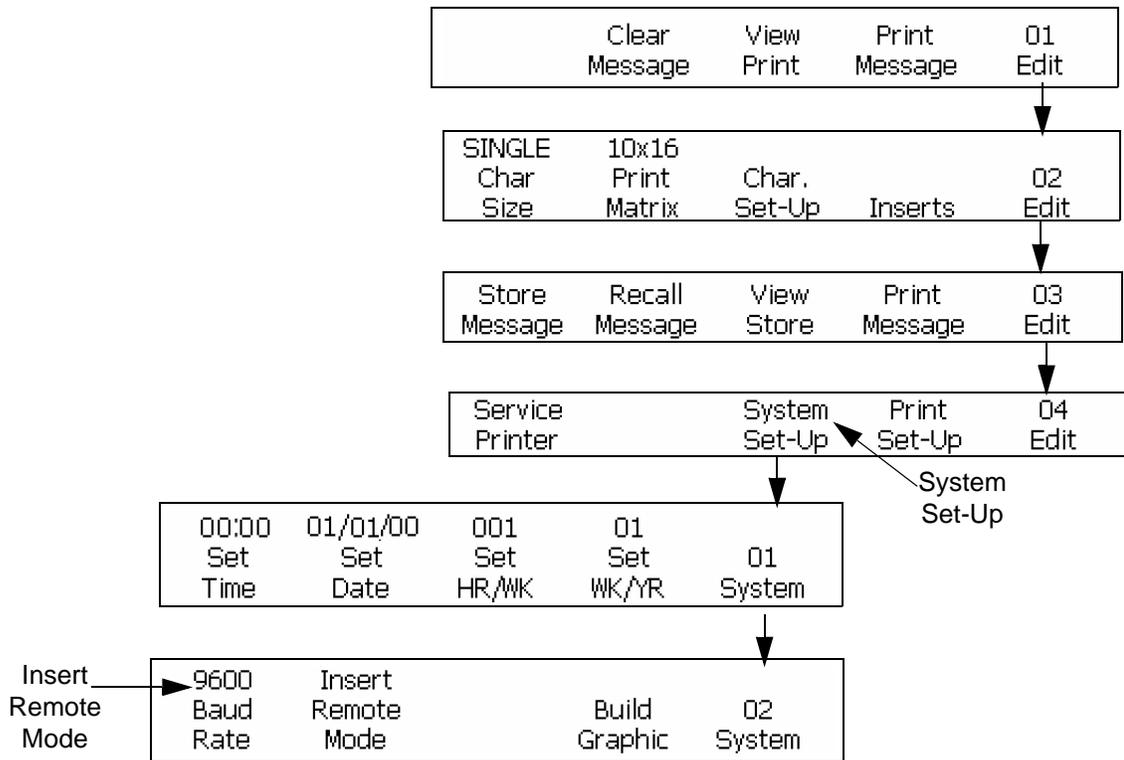

Figure 7-10: Access Frame <02 System>
- 1 Begin with the Frame <02 System>. Refer to Figure 7-10.